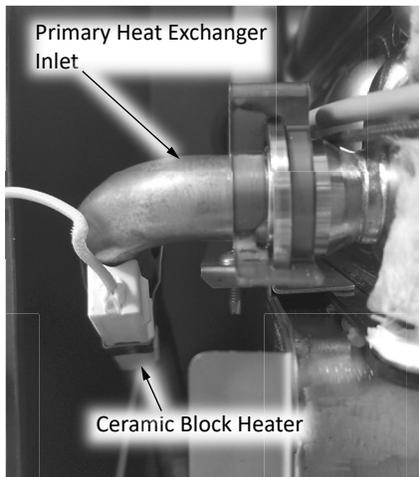

Figure 49: Ceramic block heater on Primary Heat Exchanger Inlet Pipe.
- 22 Disconnect the ceramic block heater from the Primary Heat Exchanger inlet pipe. Move the block heater and wires aside to prevent it catching on the heat exchanger assembly when it is being removed. See Figure 49.
39 Reconnect the ceramic block heater from the Primary Heat Exchanger inlet pipe. See Figure 49 on page 52.